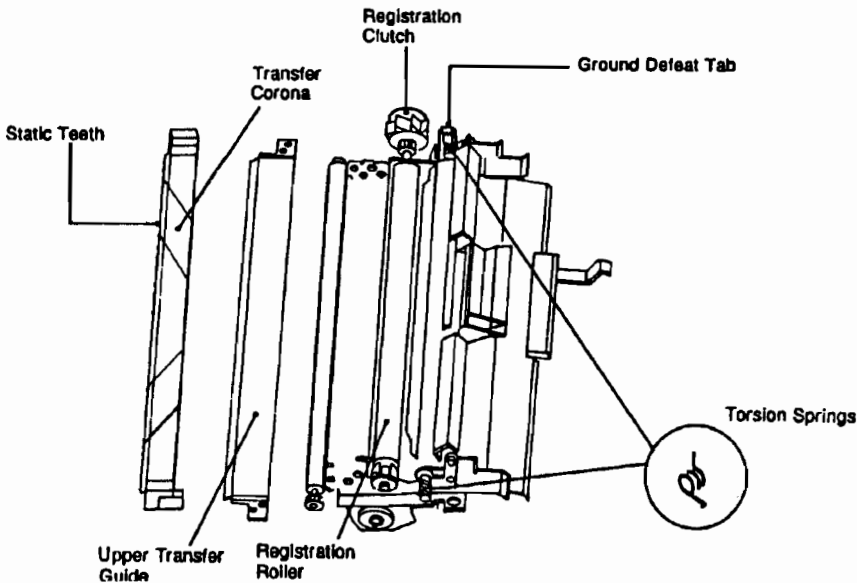

Figure 7-17. Registration Assembly
2. Are the Registration Roller torsion springs in place?	Visually inspect the springs. Correct if they are not in position. (See Figure 7-17).